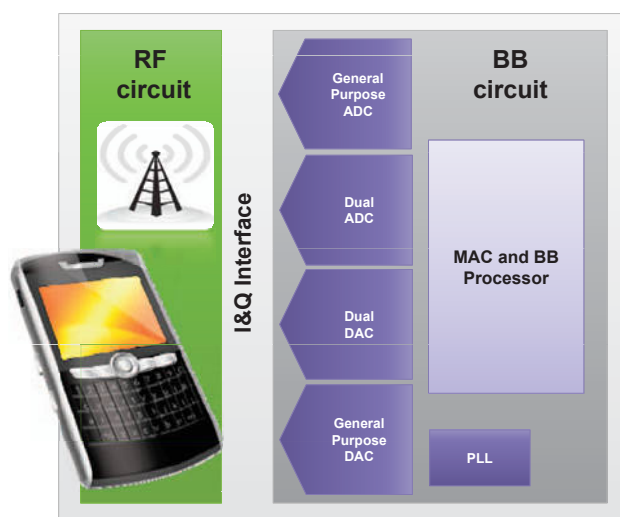

Figure 1 | An analog interface connects the analog RF block and digital baseband processor block in a broadband communications transceiver system.
A traditional communications system (Figure 1) comprises an analog RF block to translate over-the-air communication into baseband (BB) analog signals and a digital BB processor block to translate modulated signals into meaningful communication content. A wireless BB analog interface translates signals between the analog and digital domains.